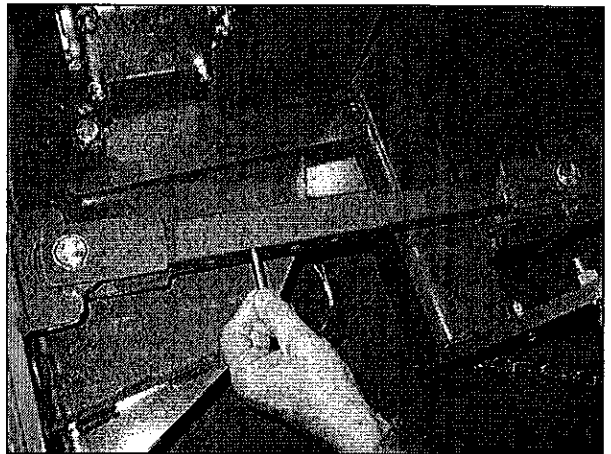

Figure 11
- e. Insert the 5/16" lock pin into the aligned holes (figure 11).